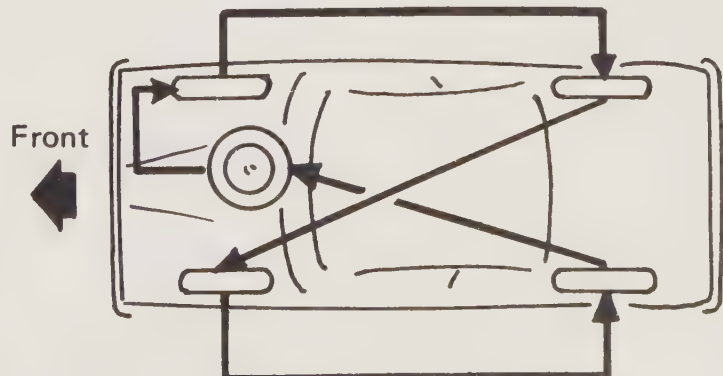

Fig. 8.20. Tire rotation
- 1 To provide equal, and obtain maximum wear from all the tires they should be periodically rotated. If the tires are maintained at the same positions for a long period, uneven wear results. They should be rotated as shown in Fig. 8.20.